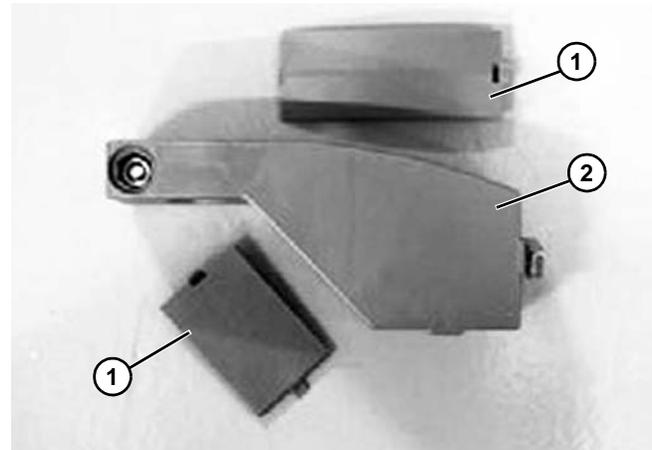

**Figure 98**
2. Attach the bracket onto conveyor beam and tighten with a socket wrench (**Figure 98, item 1**).